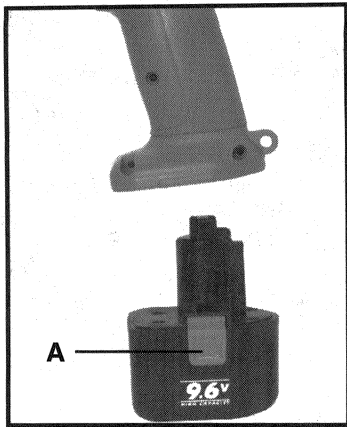

Fig. 6
TO REMOVE BATTERY PACK: Depress the two battery release buttons (A) Fig. 6, (one button on each side of battery pack) and pull battery pack out of tool.